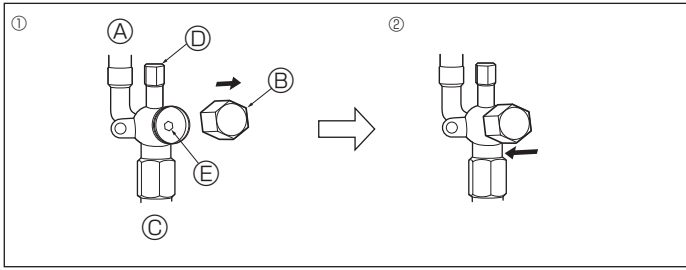

Fig. 4-10
4.7. Stop valve opening method (Fig. 4-10)
- ① Remove the cap and turn the valve rod counterclockwise as far as it will go with the use of a 5 mm hexagonal wrench. Stop turning when it hits the stopper. (ø15.88: Approximately 13 revolutions)
- ② Make sure that the stop valve is open completely and rotate the cap back to its original position.
- ① Remove the cap and turn the valve rod counterclockwise as far as it will go with the use of a 4 mm hexagonal wrench. Stop turning when it hits the stopper. (ø9.52: Approximately 10 revolutions)